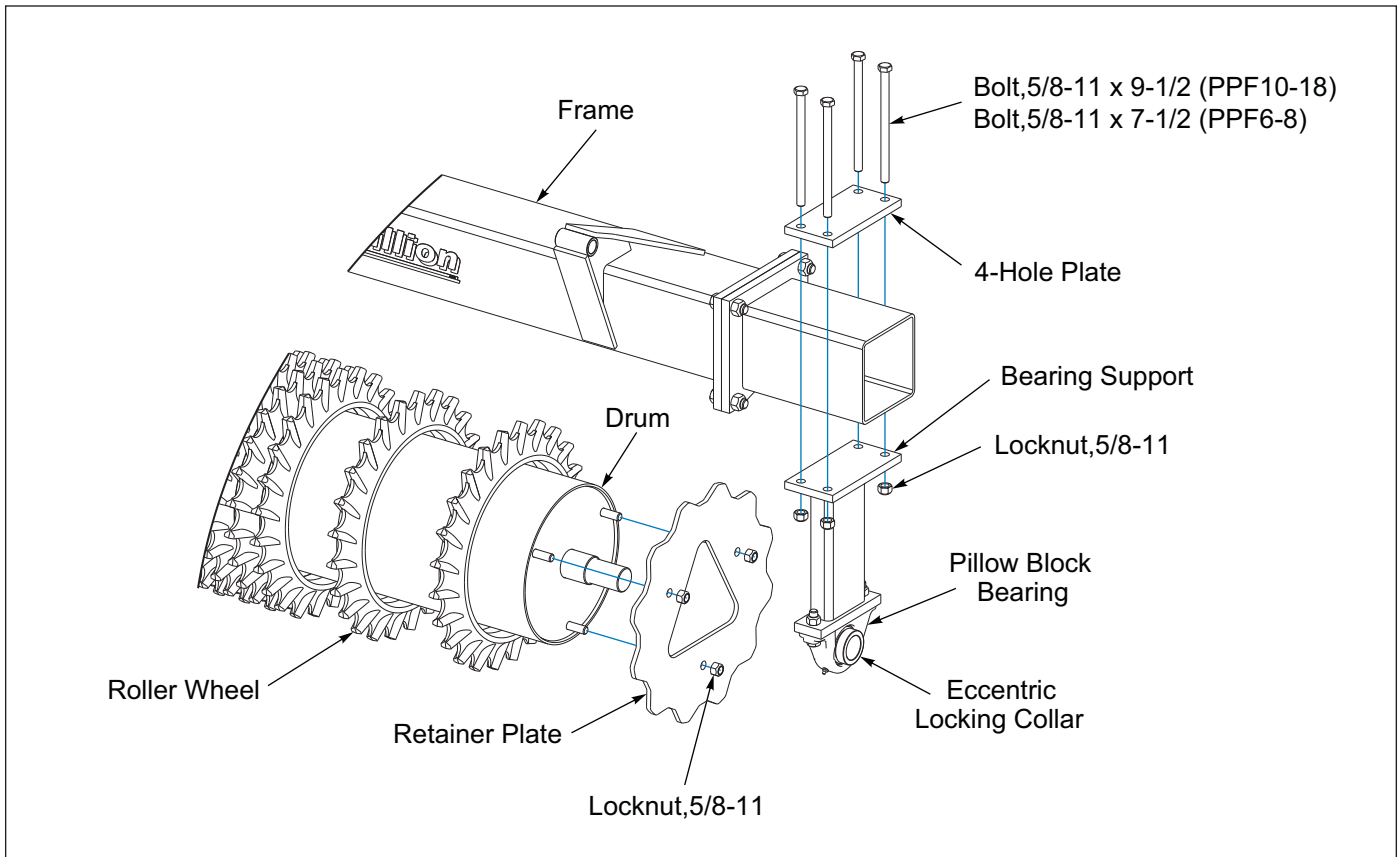

Figure 4-4: Replacing or Adding Roller Wheels
2. Remove the Bearing Support with the Pillow Block Bearing attached from the end of the Drum that will be serviced. Loosen the set screws that tighten the Eccentric Locking Collar to the shaft. Unlock Eccentric Locking Collar. Remove the Locknuts from the 5/8-11 x 9-1/2 Bolts (PPF10-18) or 5/8-11 x 7-1/2 Bolts (PPF6-8) which mount the Bearing Supports to the Frame and slide the bearing and the support off the shaft. **See Figure 4-4.**